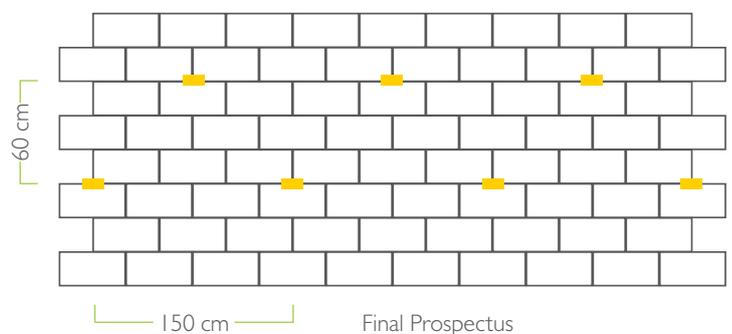

Fig.4 Anchors on existing walls
**Blocco Ambiente**® can be used as an insulating counterwall for existing walls as part of the energy requalification programs for buildings (fig. 3). Anchors are made by fixing L-brackets on the **Blocco Ambiente**®. The wing of the bracket fixed to the existing masonry must be at least 40mm long, the other part must be at least half the thickness of **Blocco Ambiente**®, the width must be at least 20mm. The fixation can be done with a 40mm rawlplug in the existing masonry and with a 60 mm nail (or screw) in the **Blocco Ambiente**®. The anchors must be laid every 150cm and every three courses of bricks in height, i.e. 60cm. (fig. 4)